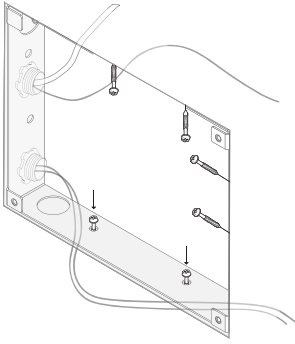

Figure 5
STEP 5 - Remove connectors from packaging box. As illustrated in Figure 5, connect wires to wiring terminals. Refer to wiring section for terminal identification.